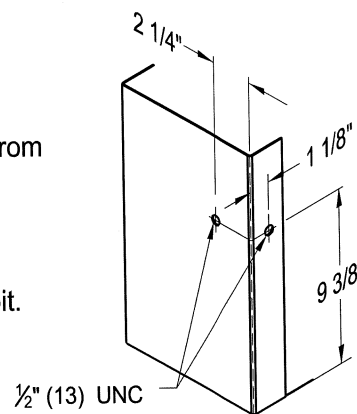

fig. 23
- Measure and mark horizontal line perpendicular to plumb line at 9 3/8" up from floor. Make mark extend around corner to front wall face (fig. 23).
- Make first hole mark on jamb face at 2 1/4" in from wall face (fig. 23).
- Make second hole mark on wall face at 1 1/8" from jamb face (fig. 23).
- Drill and tap holes for 1/2" (13) UNC holes at the two points. Use  $\varnothing_{27}^{27}$  drill bit.